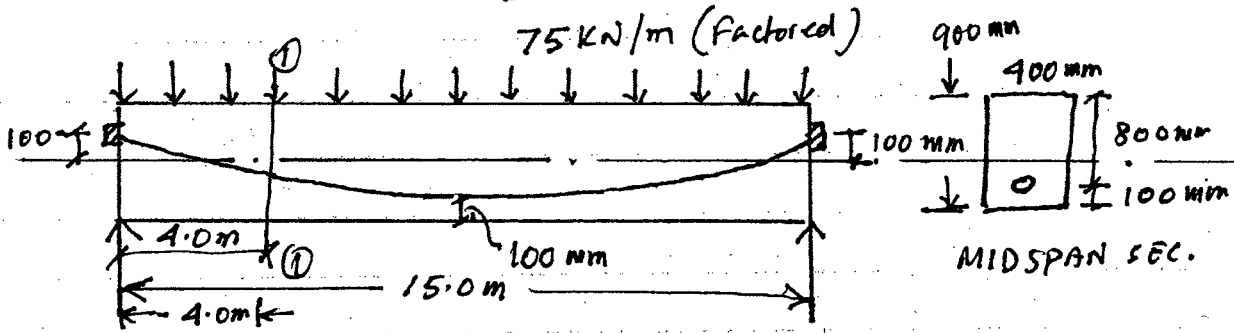

Fig. 2
- (b) Check shear strength of the beam shown in Fig. 2 at sec. 1-1 which is 4.0 m from the left support. Given that the section is adequate for  $w_u = 75 \text{ kN/m}$  (including self wt.) on the basis of flexural strength. Use both equations (Web shear cracking and inclined flexural cracking) for shear strength in evaluation and compare the results. Given: Effective prestress with 20% loss = 1200 kN;  $f'_c = 30.0 \text{ MPa}$  and non composite section. (9)